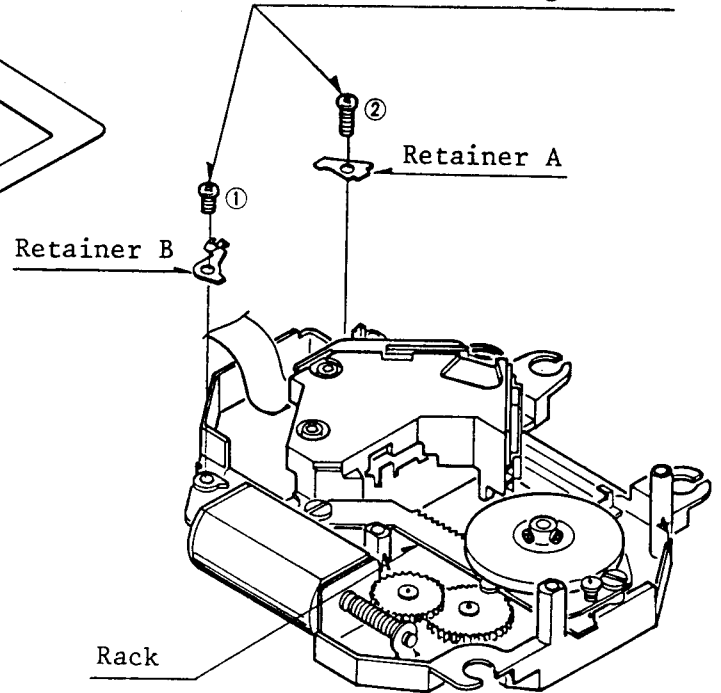

Fig. 3-3
- ③ Remove the retainer A and B by unscrewing the fastening screws as shown in Fig.3-3.